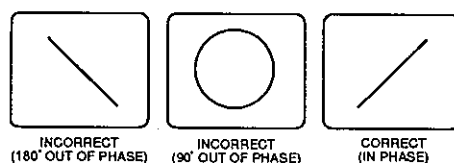

Figure 4-24
6. Adjust the Record Head Azimuth adjustment screw until the display on the oscilloscope becomes a straight line at 45 degrees as shown in **Figure 4-24**.
7. Set the external oscillator to 10 kHz, and adjust the Record Head Azimuth adjustment screw until the display on the oscilloscope becomes a straight line at 45 degrees as shown in **Figure 4-24**.
8. Set the external oscillator to 16 kHz, and adjust the Record Head Azimuth adjustment screw until the display on the oscilloscope becomes a straight line at 45 degrees as shown in **Figure 4-24**.